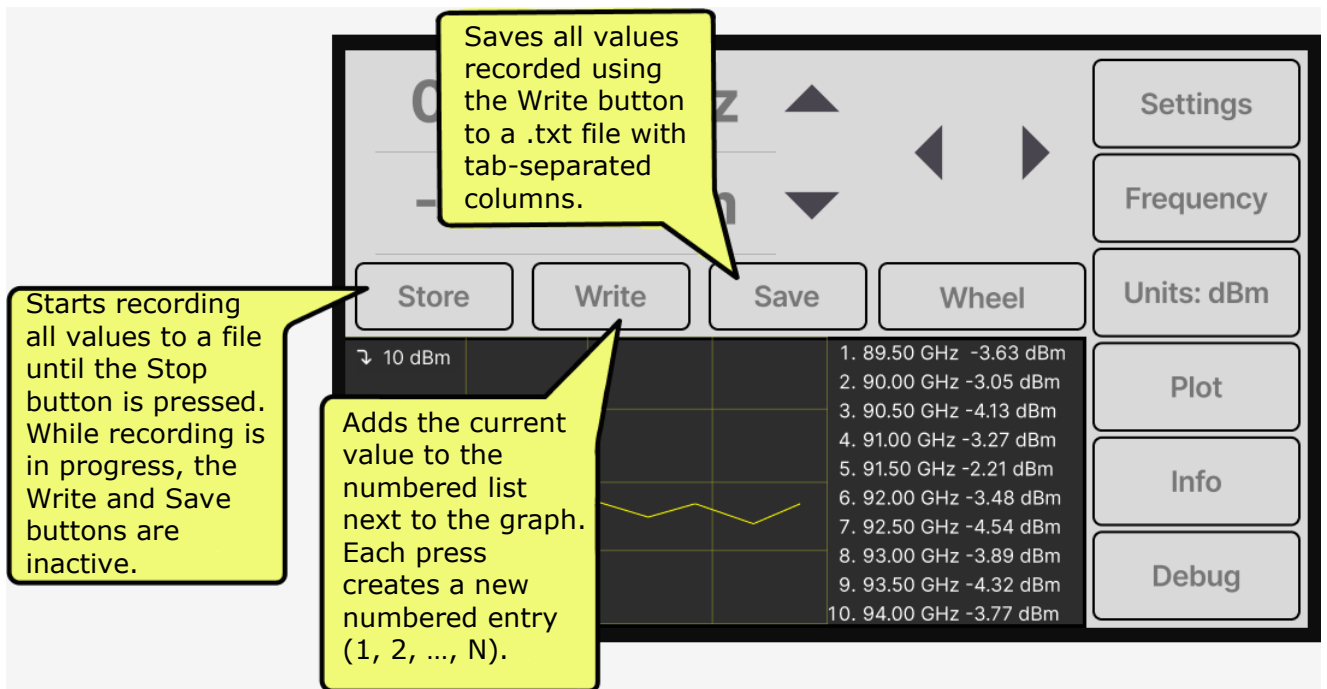

Fig.4. Save Menu and Plot
- You can use Fig.4 buttons to save measurement data. (Some functionality may not yet be implemented, depending on the firmware version.)